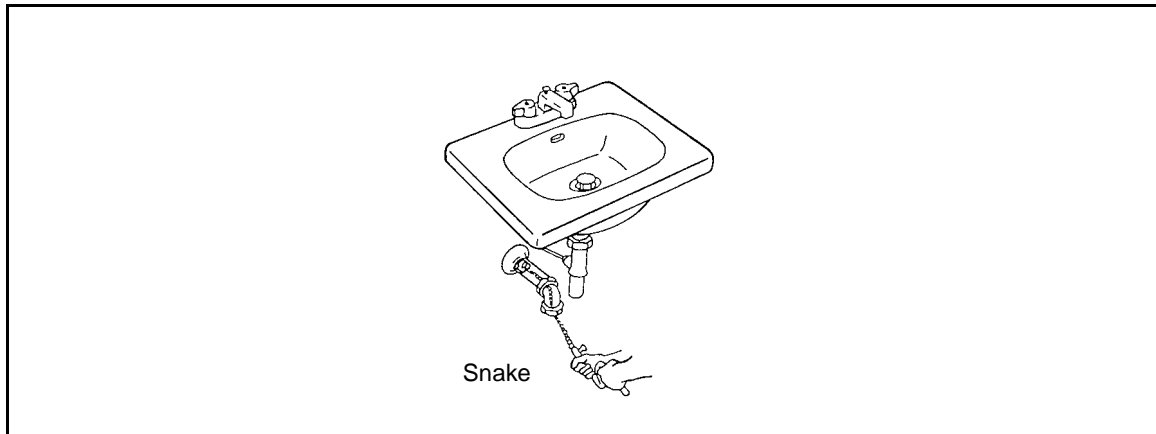

Figure 3-5. Cleaning Lavatory and Sink Stoppages Beyond the P-Trap
- 3-19. Use the following steps to clear lavatory and sink drain line stoppages beyond the P-trap (*Figure 3-5*):